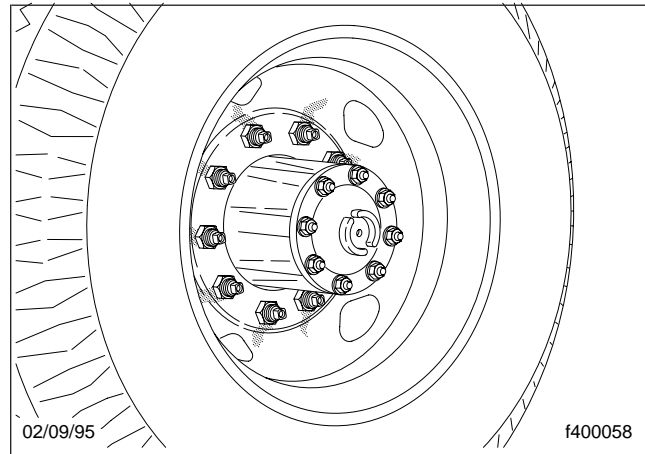

Fig. 11.8, Dirt and Rust Streaks from the Stud Holes
- 20.1 Remove all dirt and foreign material from the assembly. Dirt or rust streaks from the stud holes, metal buildup around stud holes, or out-of-round or worn stud holes may be caused by loose wheel nuts. See Fig. 11.8 and Fig. 11.9.